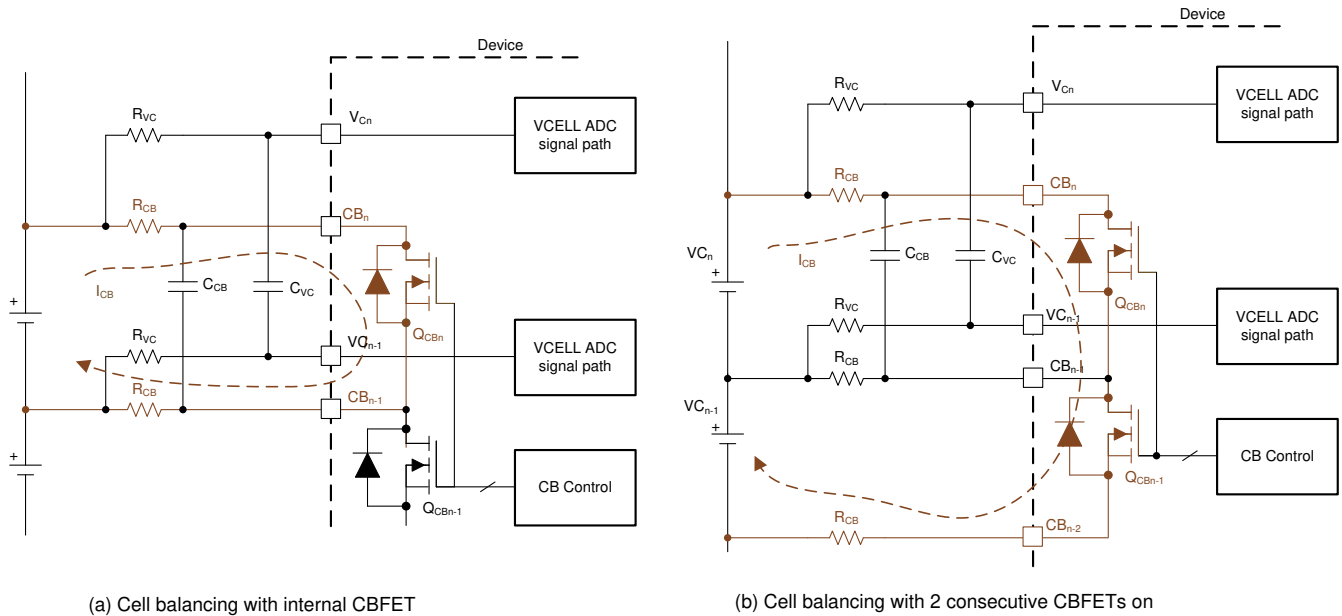

图 8-14. Internal Cell Balancing and the Flow of Balancing Current
- Balancing with no consecutive CBFET on (图 8-14 (a)): $I_{CB} = V_{Cell} / ((2 \times R_{CB}) + R_{dson_{QCB}})$
- Balancing with two consecutive CBFETs on (图 8-14 (b)): $I_{CB} = (\text{Sum of two } V_{CELL}) / ((2 \times R_{CB}) + R_{dson_{QCBn}} + R_{dson_{(QCBn-1)}})$
- Manual balancing control ($[AUTO_BAL] = 0$): With this method, the device will turn on the CBFETs that have non-zero balancing timer settings once $[BAL_GO] = 1$ is received. There is no odd and even channel switching during the cell balancing and the $BAL_CTRL1[DUTY2:0]$ setting does not apply under this control. Host MCU can enable two consecutive CBFETs with this method and a maximum of eight CBFETs can be enabled. When two consecutive CBFETs are enabled with both channels connected to battery cells, the balancing current is significantly different compared to no adjacent CBFET being on (图 8-14). The $DEV_CONF[NO_ADJ_CB]$ bit is provided to avoid inadvertent enabling of an adjacent CBFET for a system that is not intended to have an adjacent channel on for balancing. In this control method, the device is relying on the MCU to enable the proper channels. If the MCU sends $[BAL_GO] = 1$ but the CBFETs are enabled with an invalid condition, the device will not start balancing and will set $BAL_STAT[INVALID_CBCONF] = 1$. Invalid configurations are either: